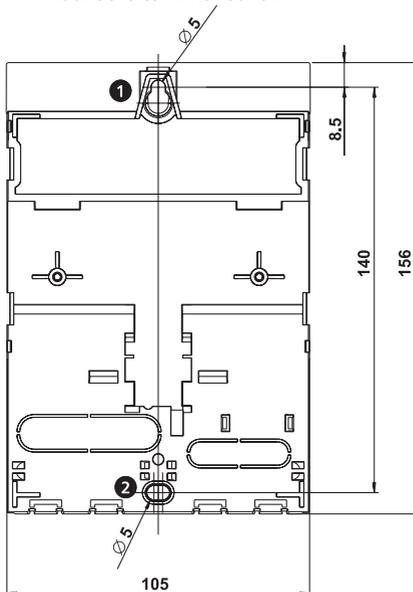

Fig 2: Rear side of the controller with the upper ❶ and lower mounting holes ❷
2. Screw in the screw for the upper mounting hole ❶ (Fig. 2) until the screw head has a clearance of 5 ... 7 mm from the mounting surface.
4. Mark the position of the lower mounting hole ❷ through the casing.
6. Hang the controller by the upper mounting hole ❶ and then fasten the screw in the lower mounting hole ❷.